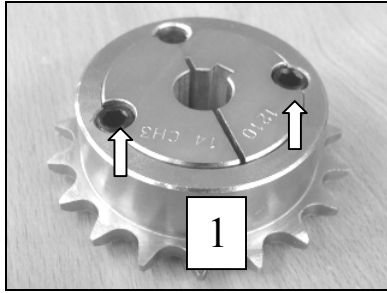

Fig. 89
- Unscrew the countersunk screws 1 (Fig. 89)